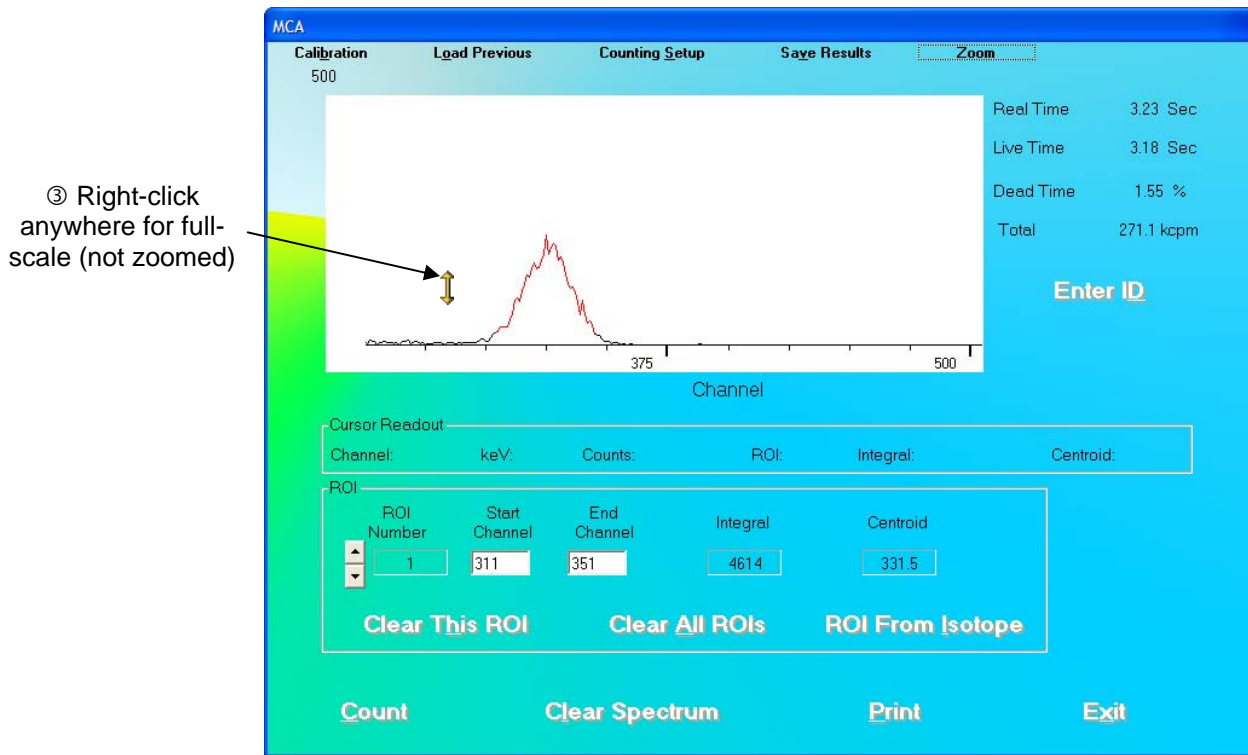

Figure 10-6
2. Right-click at the maximum channel for the zoomed view. The spectrum will appear similar to that shown in Figure 10-6.
- To restore the horizontal scale to the default value (0 to 1023), right-click anywhere in the spectrum window as shown in Figure 10-6.